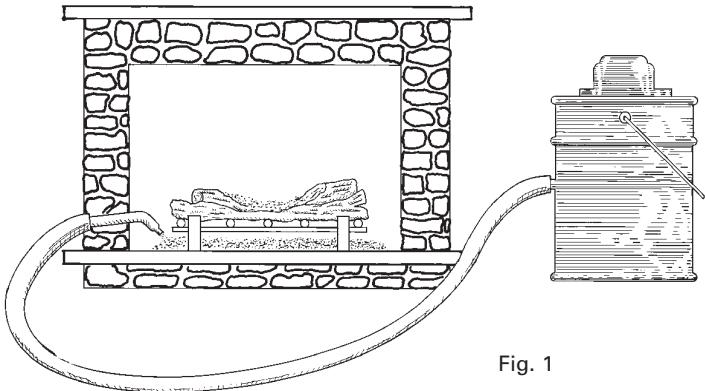

Fig. 1
- A patented double filter system allows ash to be removed from wood stoves, pellet stoves or fireplaces without emitting dust. (Fig. 1)